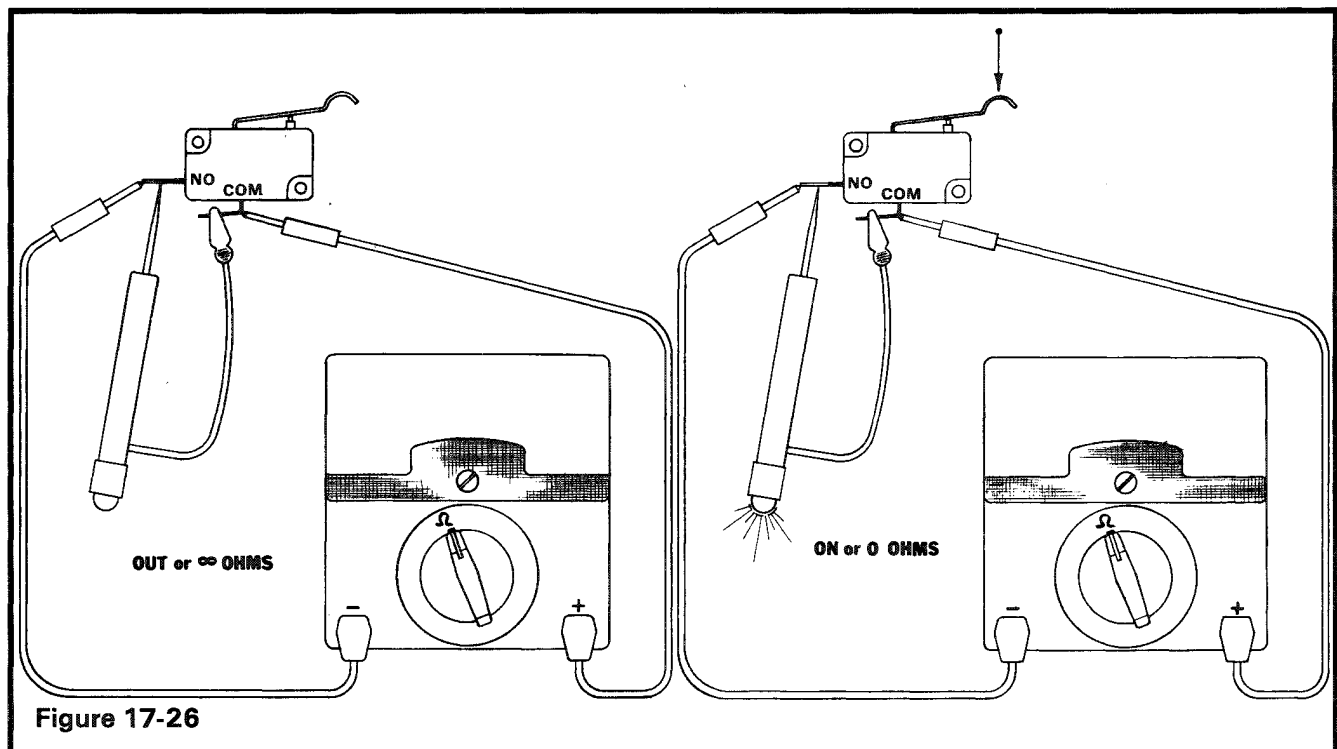

Figure 17-26
1. With the alligator clip from the continuity meter on the common terminal and the probe on the normally open (NO) terminal, switch lever not depressed, reading should be no continuity (Figure 17-26).